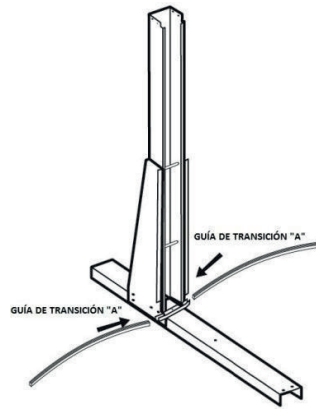

Fig. 12.
Then insert the transition guide "B" corresponding to the pool model you have purchased on both sides of the first module (take into account that the oval model 550x366 is NOT equipped with transition guides "B") (see transition guide table for this). The transition guide must be located in the runner connection (6), fig. 12.